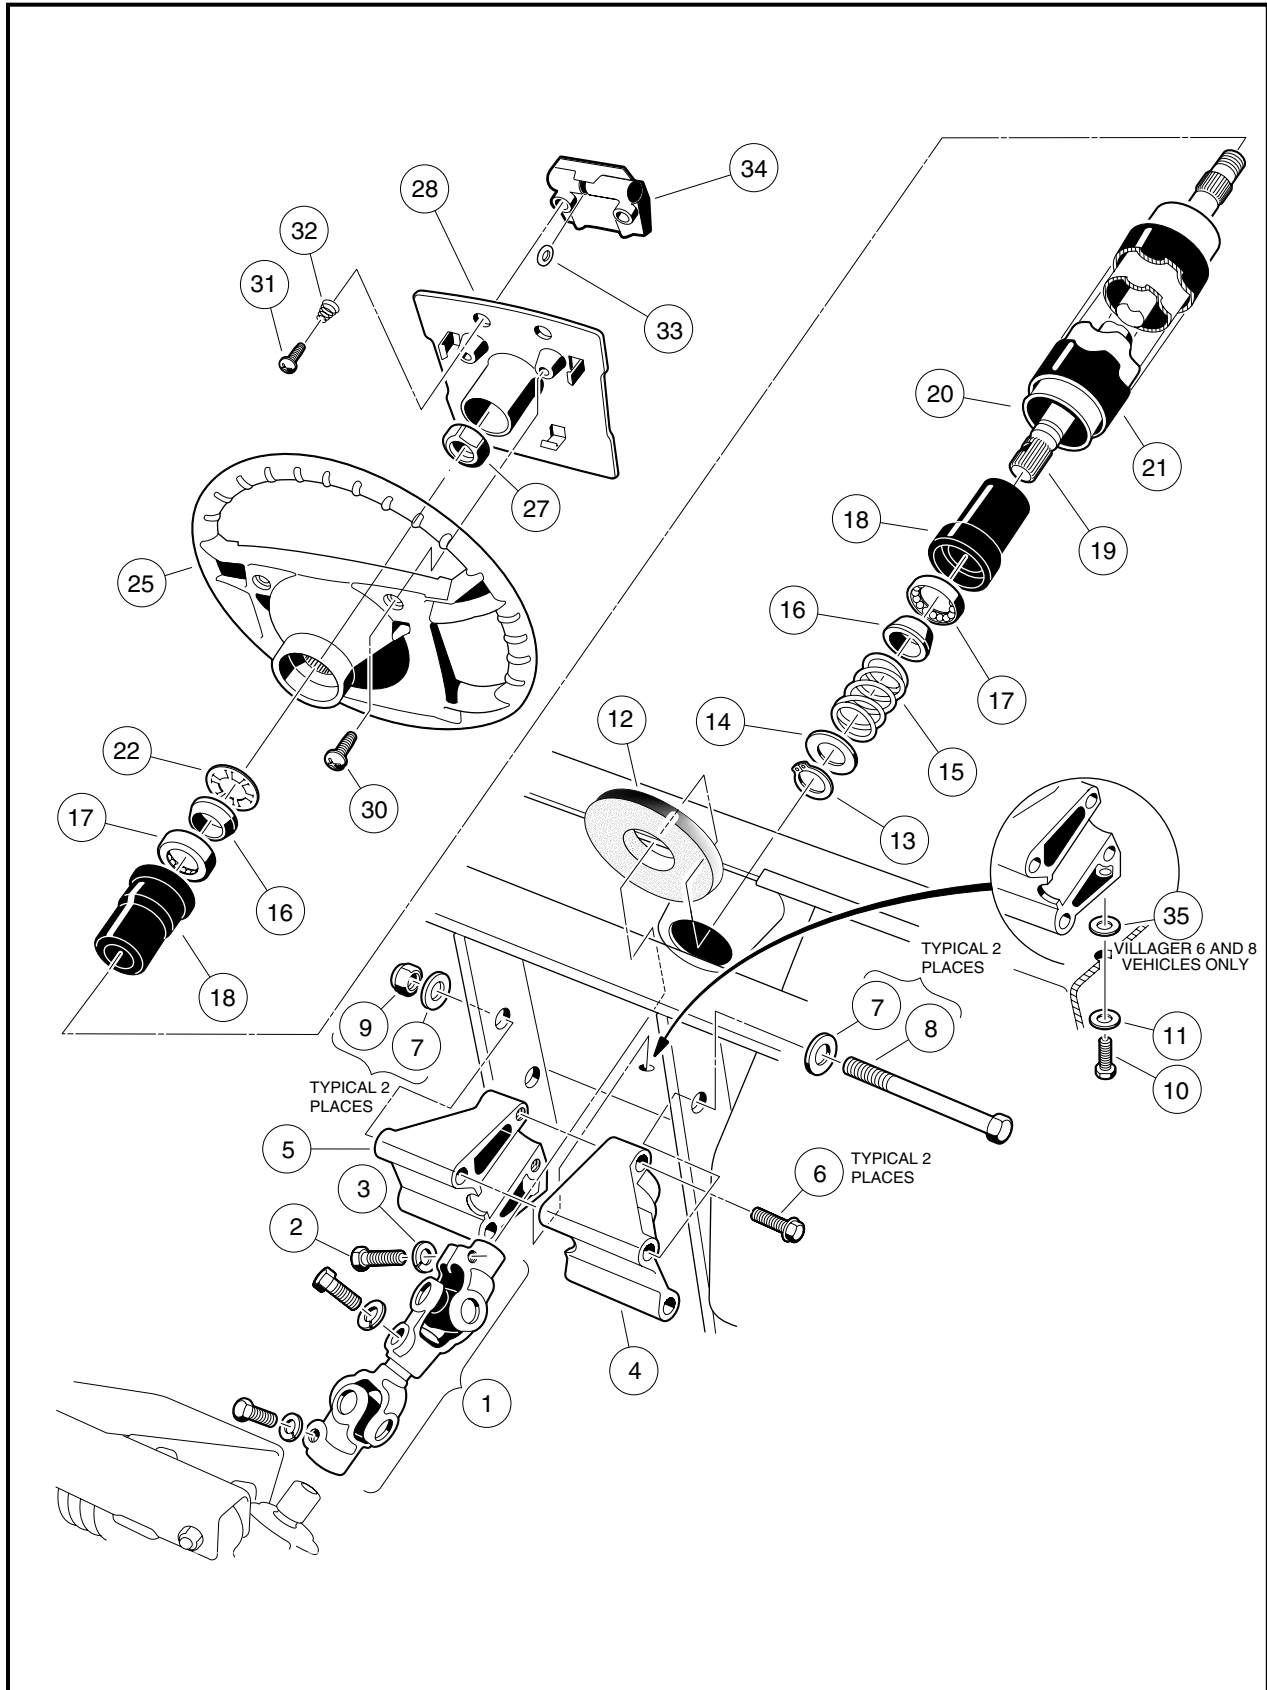

Figure 7-3 Steering Column
2. Remove the two mounting screws (30) and plate (28) **(Figure 7-3, Page 7-3).**
3. Match mark the steering wheel (25) and steering column shaft (19) so when the steering wheel is removed it can be placed back in exactly the same position on steering column shaft **(Figure 7-3, Page 7-3).**
4. Loosen the steering wheel nut (27) and back it off approximately 1/4 inch (6 mm). Do not remove the nut **(Figure 7-3, Page 7-3).**
- 5.6. Remove the steering wheel nut (27) and the steering wheel (25) from the steering column (20) (**Figure 7-3, Page 7-3**).
1. Install the steering wheel (25) on the splines of the steering shaft (19). Be sure to align the match marks placed on the wheel and steering column in step 3 above (**Figure 7-3, Page 7-3**).
2. Install the steering wheel nut (27) and tighten to 13 ft-lb (17.6 N-m).
3. Install the steering wheel plate (28) and plate mounting screws (30) (**Figure 7-3, Page 7-3**). Tighten screws to 16 in-lb (1.8 N-m).
5. Remove the upper bolt (2) and lock washer (3) from the universal joint (**Figure 7-3, Page 7-3**).
6. Remove the nuts (9), bolts (8 and 10), and washers (7, 11, and 35) from the steering column mount (4 and 5) (**Figure 7-3, Page 7-3**).
1. Remove bolts (6) and mounts (4 and 5) from steering column. Remove boot (12) (**Figure 7-3, Page 7-3**).
2. While supporting steering column (20) on a workbench, remove snap ring (13) from shaft.
4. Insert the shaft (19) from the bottom of the steering tube (20) (**Figure 7-3, Page 7-3**).
1. Install boot (12). Reinstall mount (4 and 5) onto the end of the steering column. Tighten bolts (6) to 20 ft-lb (27 N·m) (**Figure 7-3, Page 7-3**).
- Position the steering column assembly in the vehicle while inserting the steering column shaft into the upper universal joint (1). The flat portion of the steering shaft spline (19) must be aligned with the bolt hole in the universal joint (1) before sliding the spline into the universal joint. While holding the steering column in place, attach it to the frame using bolts (8), washers (7), and nuts (9) (**Figure 7-3, Page 7-3**). Thread the nuts onto the bolts but do not tighten them.
- Install washer (35) (Villager 6 and 8 vehicles only), washer (11), and screw (10). Tighten to 20 ft-lb (27 N·m) (**Figure 7-3, Page 7-3**).
- Install the bolt (2) and lock washer (3) on the upper universal joint and finger-tighten.
- Tighten the two nuts (9) and bolts (8) to 18 ft-lb (24.4 N·m) (**Figure 7-3, Page 7-3**).
- Tighten the bolt (2) on the upper universal joint to 15 ft-lb (20 N·m) (**Figure 7-3, Page 7-3**).
- Check the other two bolts of the universal joint (1) to ensure that they are properly tightened to 15 ft-lb (20 N·m) (**Figure 7-3, Page 7-3**).
5. Remove the bolt (2) and flat washer (3) on the upper universal joint, then remove the rack assembly and universal joint from the vehicle (**Figure 7-3, Page 7-3**).